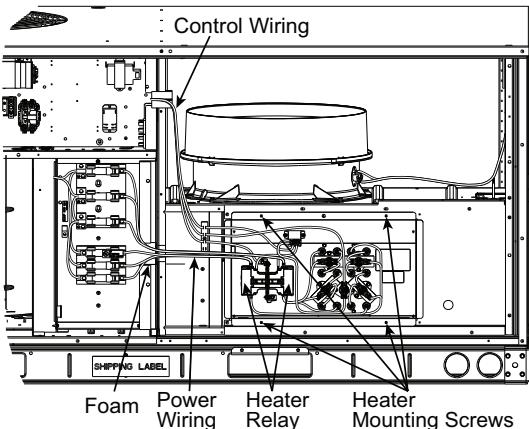
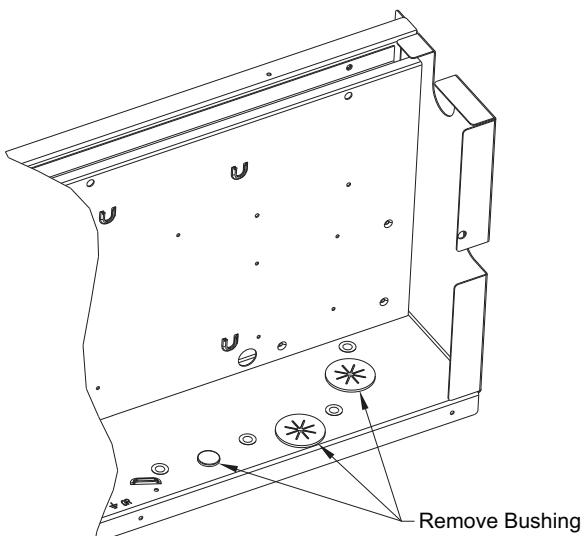
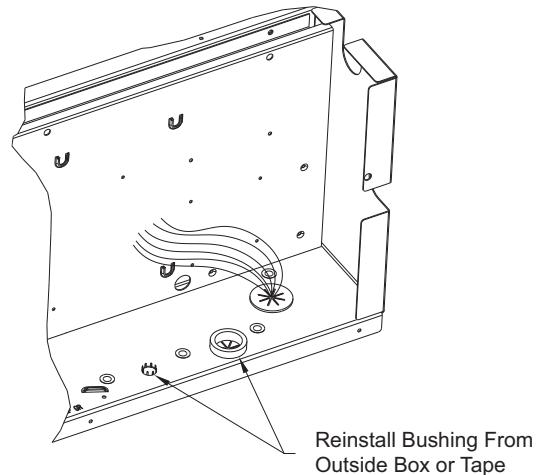

Fig. 4 – Typical Single Point Kit Installation
Fig. 8 – Control Box - Bushings to Remove (STD SCCR and High SCCR)
Fig. 9 – Bushings Replaced from Outside Control Box (STD SCCR and High SCCR)
6. Install the electric heater module and connect heater power conductors to single point box or main unit control box per appropriate connections figure. (See Appendix A on page 20.) See Fig. 4 for typical installation.
7. All bushings in the area of the control box where the single point box (SPB) mounts, must be removed prior to securing the SPB to the control box. (See Fig. 8.) Also, for units installed in the snow belt, all unplugged holes in the bottom of the control box which are not used must be plugged before installing the SPB. Use foil tape or reinstall the bushings from the outside of the control box prior to securing the SPB. (See Fig. 9.)
8. Remove the single point box cover. Secure single point box to the underside of the control box with the 2 screws provided. (See Fig. 4.) Re-install bushing on the SPB tap conductors. (See Fig. 9.)
- Route power wires from heater module through the foam bushing in the center partition and into the single point box. (See Fig. 4.) Connect to terminal block or fuse blocks per schematics in Appendix A. See Table at beginning of Appendix A to identify the appropriate figure.